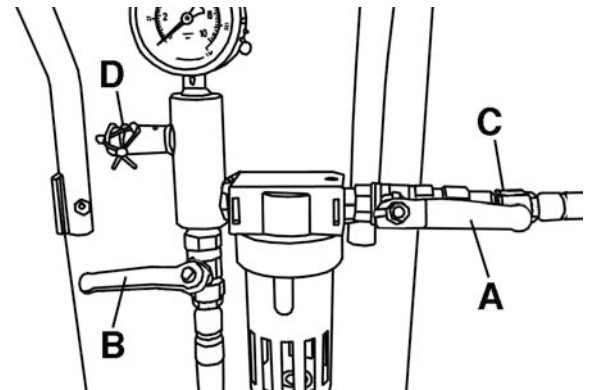
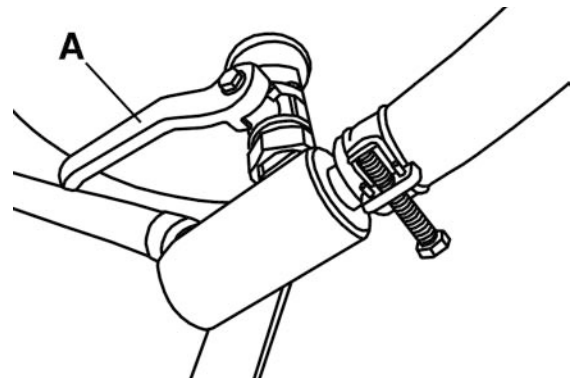
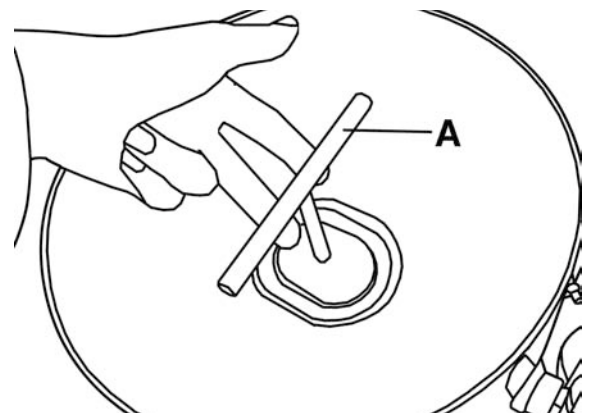

Figure 9
Figure 10
Figure 11
First make sure the air supply valve (A) Fig.9 and the blast hose air supply valve (B) are in the closed position (horizontal).
Also make sure the abrasive valve (A) Fig.10 is closed position (horizontal).
Connect the air supply hose from your compressor to the air inlet (C) Fig.9. Turn the compressor on and adjust its air pressure regulator between 65-120 PSI, depending on your requirements.
Move the air supply valve (A) Fig.9 to the open position (vertical), then lift the lid with handle (A) Fig.11 upwards to seal the tank closed so that the tank can pressurize.
Note: If the tank relief valve (D) Fig.9 trips open and exhausts air, immediately turn the compressor off and correct the over-pressurization problem with the compressor. If the tank exceeds its rated pressure, it may explode, causing severe injury or death.
Move the blast hose air supply valve (B) Fig.9 and the abrasive valve (A) Fig.10 to the open position (vertical).
When the sandblasting operation is over, always close the air supply valve (A) Fig.9 before you disconnect the air supply line (C), or else the residual air will expel sand backwards through the water separator filter and out the air inlet, damaging the water separator filter.